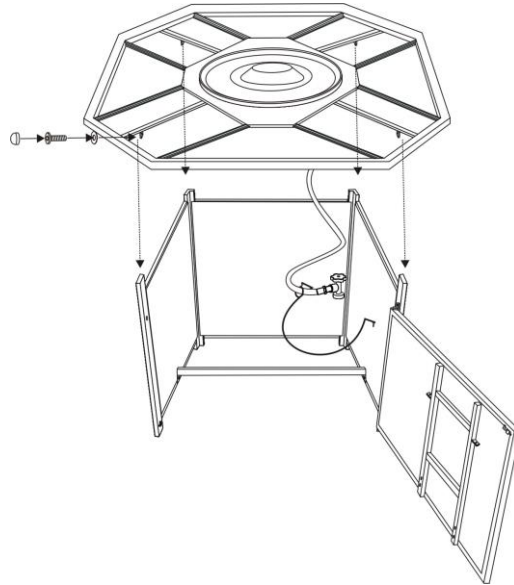

Figure 6
6. With the help of another person, carefully place the table top onto the table base. After making any necessary adjustments to the alignment of the table top and the assembled base, use four 1/4"x20 mm bolts and washers as shown in Fig.6. Guide the bolts through the holes under the table top, into the pre-drilled holes in the side panels. **Do not tighten completely.**